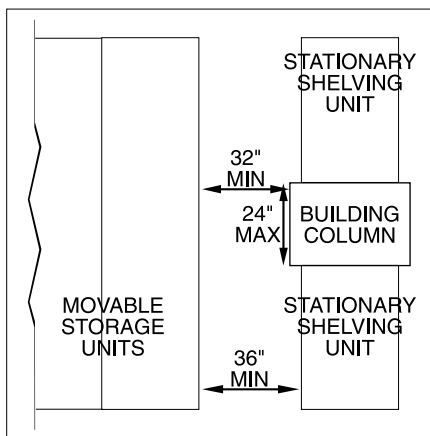

Figure 1. According to the ADA, aisles must be a minimum of 32 inches (815 mm) at a point and 36 inches (915 mm) for continuous clearance for a wheelchair.
**Aisles** — Must be 32 inches (815 mm) minimum at a point (maximum length 24 inches (610 mm) and 36 inches (915 mm) continuous clearance for a wheelchair (Fig. 1); 42 inches (1067 mm) is preferred for libraries. Mobile can provide the wide aisle in much less overall space than stationary shelving, which has to provide the space between each unit.